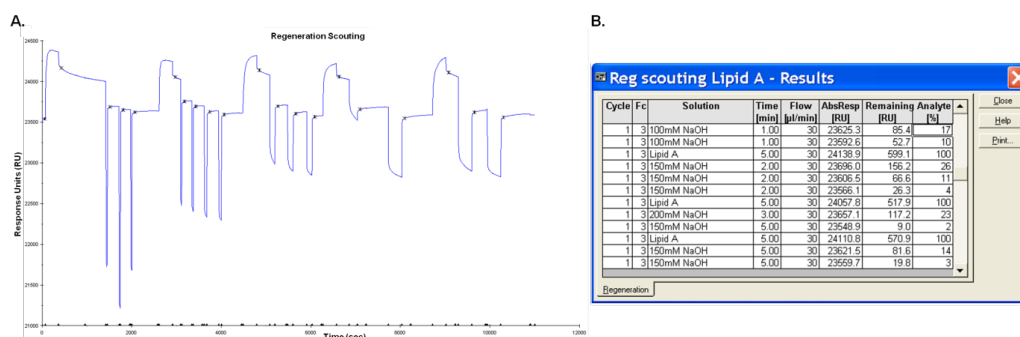

Figure 4. Regeneration scouting sensorgram A and result report B illustrating some conditions tested for analyte (lipid A) removal
3. Test the buffers, starting with the mildest. First inject glycine buffers at pH 3.0, 2.5, 2.0 and 1.5 for 60 sec. If the response level does not go back to the baseline level (response before the analyte injection), keep on testing other buffers. Optimization of contact time of the surface with the regeneration buffer, number of buffer injections and baseline stabilization period will help to determine optimal regeneration conditions. In our case regeneration was set up with two washes of 20 mM NaOH for 5 min for LPS and 150 mM NaOH for 5 min for lipid A, followed by 2 min of wash with HBS-EP buffer (Figure 4).